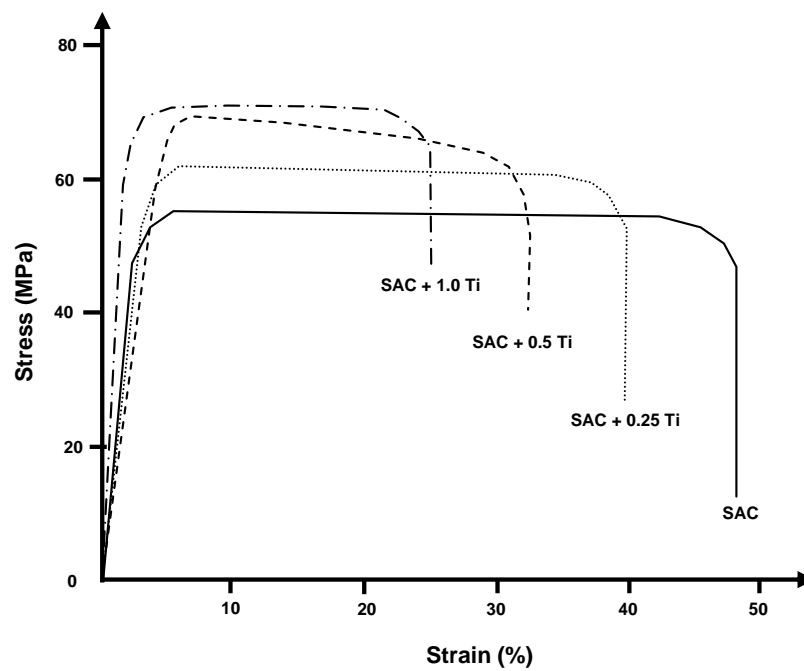

Figure 1 / Rajah 1
3. In order to improve lead-free solders alloy of Sn-3.5Ag-0.25Cu (SAC), titanium (Ti) nanopowders have been added into the system. Figure 1 shows tensile stress-strain curves of the SAC mixed with Ti (wt.%) at room temperatures.